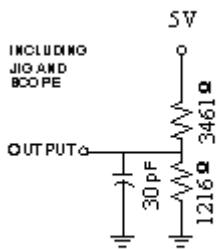

FIGURE 1A
5. Test conditions assume signal transition times of 5ns or less, timing reference levels of 0.5VCC, input pulse levels of 0V to VCC and output loading specified in Figure 1A.
- Test conditions assume signal transition times of 5ns or less, timing reference levels of 0.5VCC, input pulse levels of 0V to VCC and output loading specified in Figure 1A.